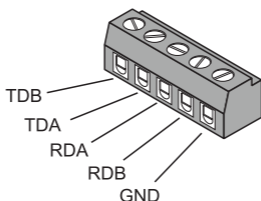

Figure 2. Terminal Block Connector Pinout
- **4-wire:** TDA and TDB clips are data output from the modem; RDA and RDB clips are data input to the modem (see *Figure 2*).
- **2-wire:** RDA and RDB clips are data input/output in and from the modem (see *Figure 2*).